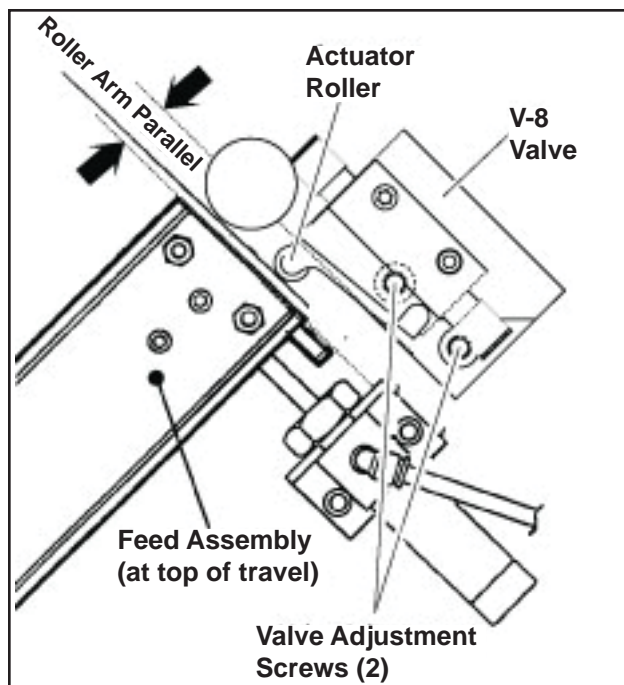

Figure 8-1 V-8 Valve Adjustment
The tension roller assembly, shown in **Figure 8-1**, provides a preset tension to the tape web. No further adjustment is required. If the tension roller assembly is replaced or comes out of adjustment, make adjustment as follows to obtain tension to the tape web: turn the lock nut, located behind the tension roller assembly, counterclockwise to increase tension, clockwise to decrease tension.
The V-8 Valve is fully engaged (at the top of it's travel) and properly adjusted when the cam roller arm is in a parallel position to the valve body (see **Figure 8-1**). Loosen valve adjustment screws (2), slide valve up or down to obtain this adjustment and tighten screws. Be sure feed assembly is held at top of travel when making valve adjustment.